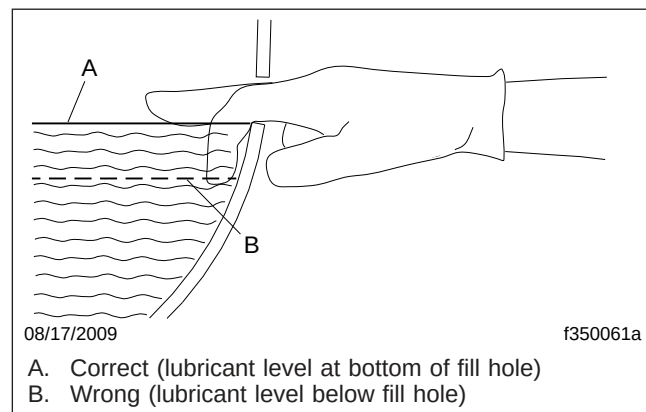

Fig. 9, Drive Axle Lubrication Level
4. Lubricant should be level with the bottom of the fill hole. See Fig. 9. If low, check the axle for leaks, and have any leaks corrected. Add lubricant as required. See Table 1 and Table 2 for recommended drive axle lubricants.
8. Fill the axle housing to the bottom of the fill hole, (Fig. 9) using the specified lubricant. See Table 1 and Table 2 for recommended drive axle lubricants.